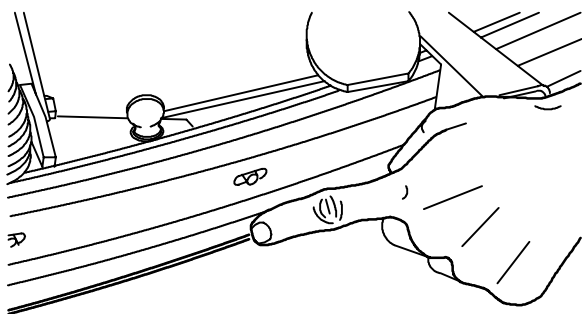

FIG. 62
7. Check squeegee blades for damage and wear. Wipe the squeegee blades clean. Store the squeegee assembly in the raised position to prevent blade damage (Figure 62).